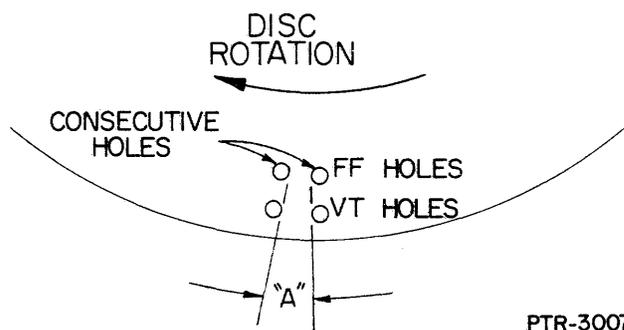

Figure 5-43. VTFF Adjustment Range "A" on Disk.
1. Punch a programmable disk with two consecutive VT and FF holes (see Figure 5-43) and install disk on disk wheel.
2. Line-feed Printer until the lamp filament is between the two consecutive FF and VT holes. The range between holes being "A" of Figure 5-43.
and again note the ruler reading. These readings establish the range of "A" as shown in Figures 5-43 and 5-44. If "A" cannot be established go to step 10.